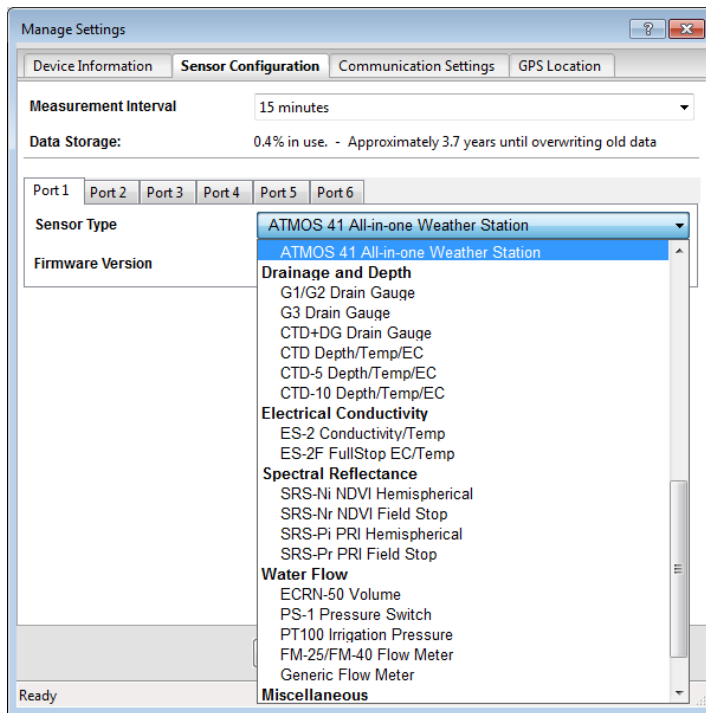

Figure 5 Select Sensor Type dropdown
10. Ensure the correct sensor type is listed in each port tab (Figure 5).